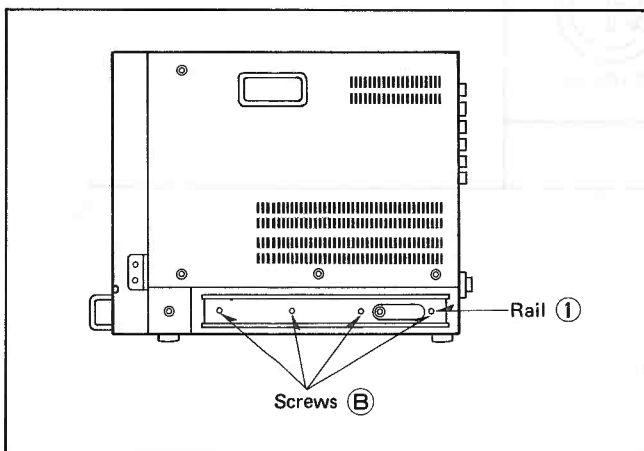

Fig. 7
7. Mount and secure both the right and left rails (1) on the unit using four screws (B) each. (Fig. 7)